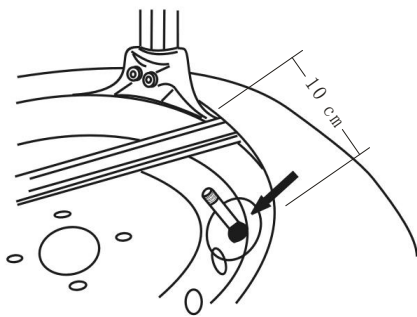

Fig.18
***If inner tube ,to avoid damage of inner tube, keep the position of air valve and mounting head at 10cm distance (as fig.18)***